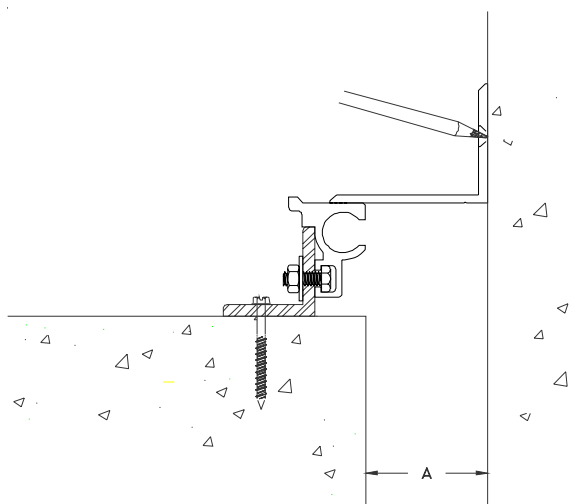

Figure 6
STEP 10. Select a section of the wall-mounted center plate, and place it into its installed position against the wall and spanning the joint. Ensure that the wall-mounted center plate is properly aligned, at the proper elevation and level. Using the plate as a template, mark the locations for the anchor holes on the wall, see Figure 6.